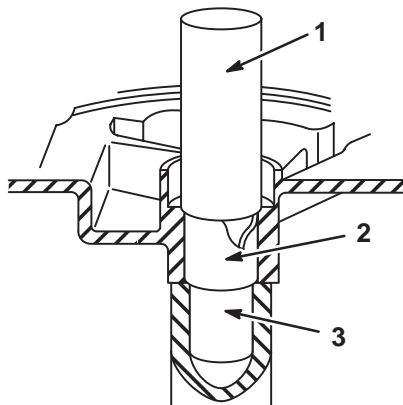

Fig. 144 – Pressing Bearing
2. Press bearing to dimension shown in Table No. 7, page 58 and Fig. 144.